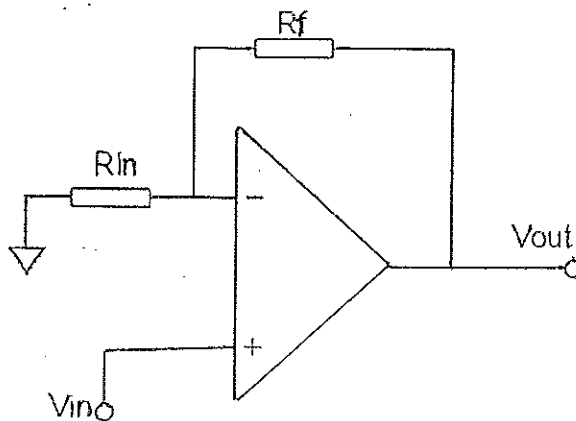

Figure 4
- gain bandwidth product (BW)
- b) Consider the operational amplifier circuit with a gain "A" shown in Figure 4.